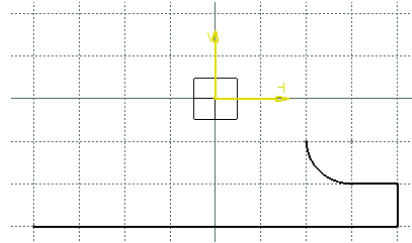

Figure 2-77 The sketch after drawing three lines and a tangent arc
7. Move the cursor to the location whose coordinates are 20, -10 and click to specify the endpoint of the tangent arc; the **Line** mode is activated and the line gets attached to the cursor again. Figure 2-77 shows the sketch after drawing three lines and a tangent arc. In this figure, the constraints are hidden for better visualization.